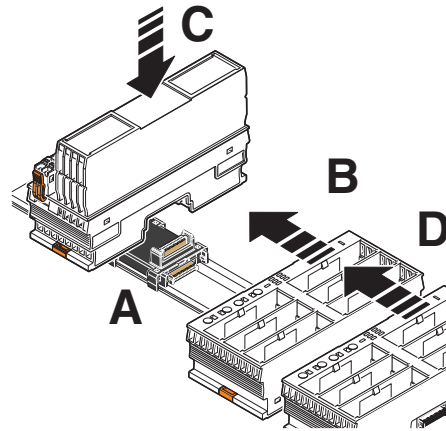

Figure 11-10 Connecting the backplane with the bus base module
- Place the backplane on the DIN rail (Figure 11-10, A).
- First backplane: push the connection of the backplane into the connection of the previous bus base module (Figure 11-10, B).
- Place the controller or bus coupler onto the bus base module (Figure 11-10, C).
- Subsequent backplanes: push the backplanes together (Figure 11-10, D).